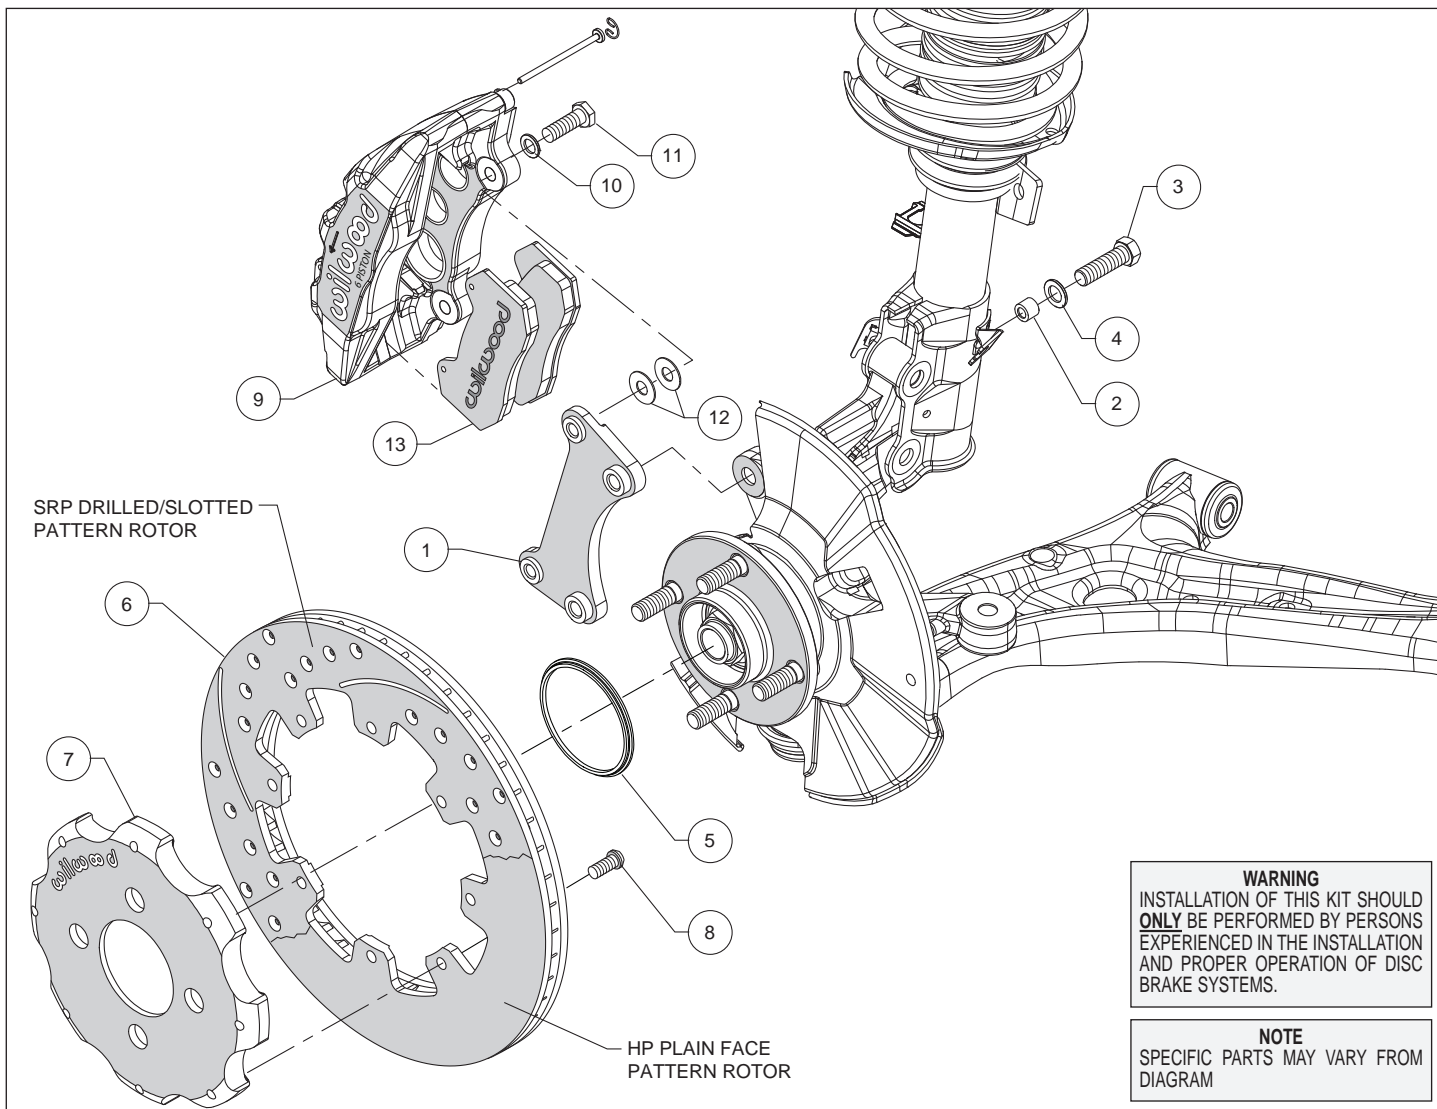
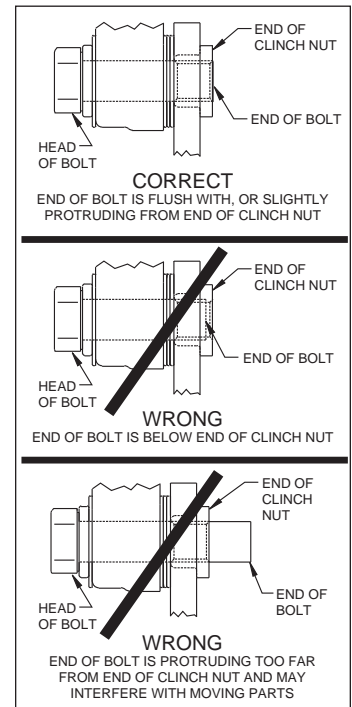

Figure 1. Typical Installation Configuration
Figure 3. Clinch Nut Engagement Diagram
Assembly Instructions (numbers in parenthesis refer to the parts list and Figure 1 on the preceding pages): **CAUTION:** All mounting bolts must fully engage clinch nuts. Be sure to check that all bolts are either flush or protruding through flanged side of clinch nut after shimming, Figure 3.
- Orient the caliper mount bracket (1) as shown in Figure 1 and Photo 1, and install using bolts (3) and washers (4). Insert one sleeve (2) into each of the holes in the spindle “ears” where the Original Equipment Manufacturer (OEM) caliper bracket was removed. Ensure that the flanged heads of the clinch nuts in the bracket are facing outboard, Photo 1. Temporarily tighten the mounting bolts. **NOTE:** The bracket must fit squarely against the mount bosses on the upright. Inspect for interference from casting irregularities, machining ridges, burrs, etc. Remove bolts one at a time, apply red *Loctite*® 271 to the threads and torque to 60 ft-lb.
- Orient the rotor (6) and the hat (7) as shown in Figure 1 and Photo 2. Attach rotor to hat using bolts (8). Using an alternating sequence, apply red *Loctite*® 271 to the threads, and torque to 25 ft-lb.
- Slide the rotor registration adapter (5) onto the axle register on the axle hub with the smaller O.D. facing toward the rotor/hat (6/7), Photo 3. Slide the hat/rotor assembly onto the axle hub, Photo 4. **NOTE:** The hat must fit flush against the axle hub flange or excessive rotor run out may result. Install three lug nuts (finger tight) to keep the hat/rotor assembly in place while continuing with the installation.
- **NOTE:** Please reference the caution statement at the beginning of the assembly instructions. This kit contains distinct right and left hand calipers that must be mounted in a specific direction, as described below. Mount the caliper (9) onto the caliper mounting bracket (1) using bolts (11) and washers (10), as shown in Figure 1. Initially place two .035" thick shims (12) on each bolt between the caliper and the bracket, Photo 5. Ensure that the caliper is mounted so the largest pistons are at the rotor exit end of the caliper, in relation to the direction of rotor rotation. Temporarily tighten the mounting bolts and view the rotor (6) through the top opening of the caliper. The rotor should be centered in the caliper, Photo 6. If not, adjust by adding or subtracting shims between the bracket and the caliper. Always use the same amount of shims on each of the two mounting bolts. **NOTE:** The end of each bolt must be flush with or slightly protruding from the head of the clinch nut, as shown in Figure 3. If necessary place spare shims between washer (10) and caliper mounting ear to achieve the proper clinch nut engagement. Once the caliper alignment and clinch nut engagement are correct, remove the bolts one at a time, apply red *Loctite*® 271 to bolt threads, and torque to 40 ft-lb..
- Remove the two pad retaining pins from the caliper (9) by carefully popping out the pin retaining clips and sliding out the pins. Insert the brake pads (13) into the caliper from the bottom, Figure 1 and Photo 7, with the friction material facing the rotor. Secure the brake pads in place with the pad retaining pins and clips, Photo 8. Reinstall the caliper onto the caliper mounting bracket. Apply red *Loctite*® 271 to bolt threads (11), and torque to 40 ft-lb.